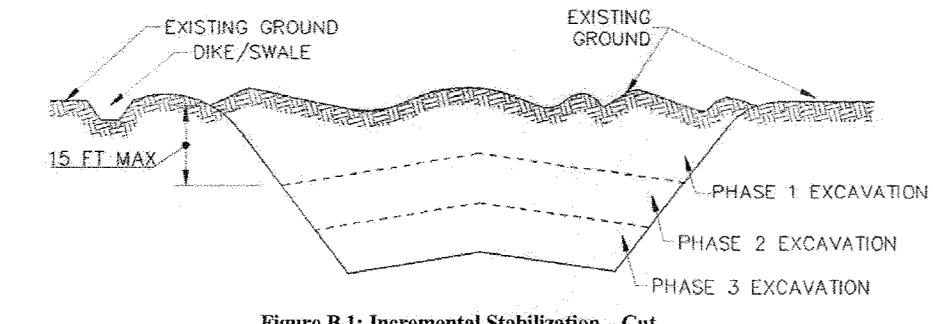

Figure B.1: Incremental Stabilization - Cut
- 2. CONSTRUCTION SEQUENCE EXAMPLE (REFER TO FIGURE B.1):